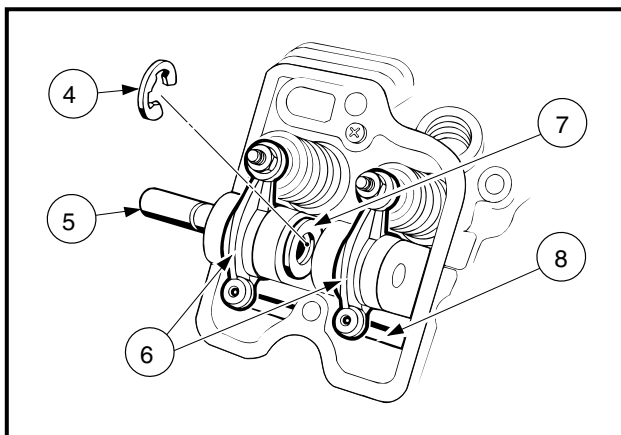

Figure 2-6 Rocker Shaft Removal
NOTE: Mark the rocker arms (6) and the push rods (8) so they can be put back in their original positions (**Figure 2-6, Page 2-7**).
2. Remove the E-ring (4) and pull the rocker shaft (5) out of the cylinder head (**Figure 2-6, Page 2-7**).
3. Lift out the rocker arms (6), washer (7), and push rods (8).